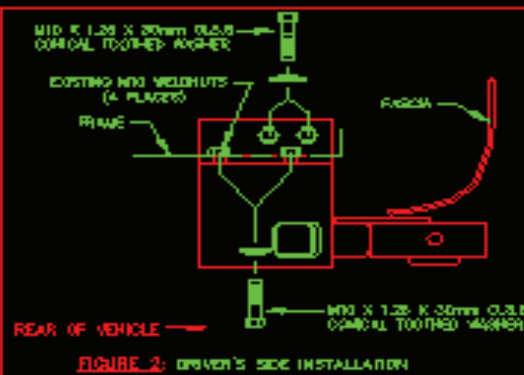

FIGURE 2: DRIVER'S SIDE INSTALLATION
INSTALL FOUR (4) M10 BOLTS AND FOUR (4) CONICAL TOOTHED WASHERS AS SHOWN IN FIGURE 2.